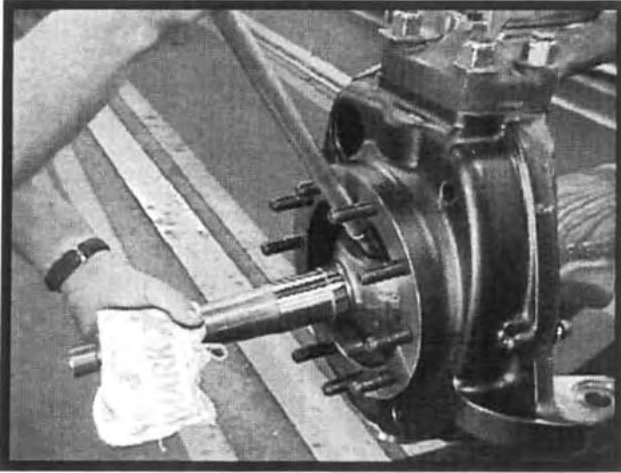
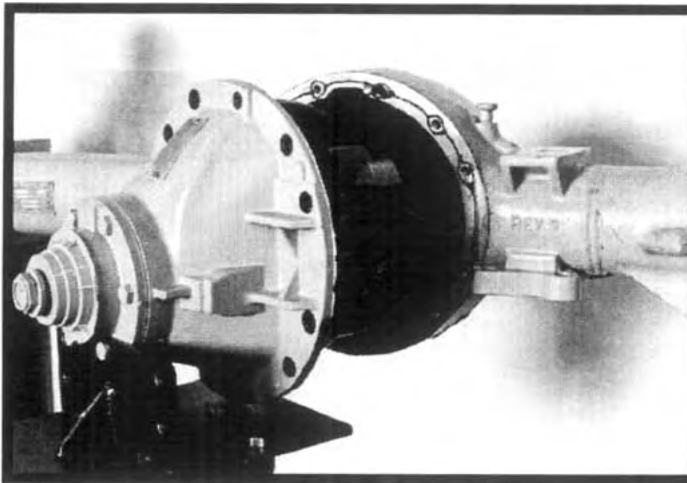

Figure 18
Figure 25
8. Insert the tip of the axle shaft carefully through the inner axle seal and continue to push the assembly in until it can be felt to contact the differential. Rotate the assembly so the yoke shaft mounting faces are horizontal. By using a bar placed between the universal joint and the yoke shaft as a lever, the tip of the axle shaft inside the housing can be raised sufficiently to allow it to engage with the differential splines. See Figure 18.
5. Installation is the reverse of removal. Apply a bead of Loctite #515 or equivalent around the differential carrier mounting face on the axle housing. See Figure 25. Coat the mounting bolt threads as well to avoid seepage. Use a bar as depicted in figure 18 to ease axle shaft installation. See Section 8.0 for correct torque values.